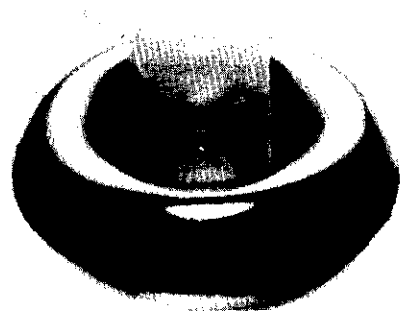

Fig 31—W7MPW's finishing-washer LED mount looks just fine.
□ Finishing washers, commonly available in hardware stores, make professional-looking LED mounts (see Fig 31). Two dabs of hot glue between the back of the LED and the panel hold the assembly in place.—H. L. Van Ness, W7MPW, 8005 Sand Point Wy NE, Apt A34, Seattle, WA 98105